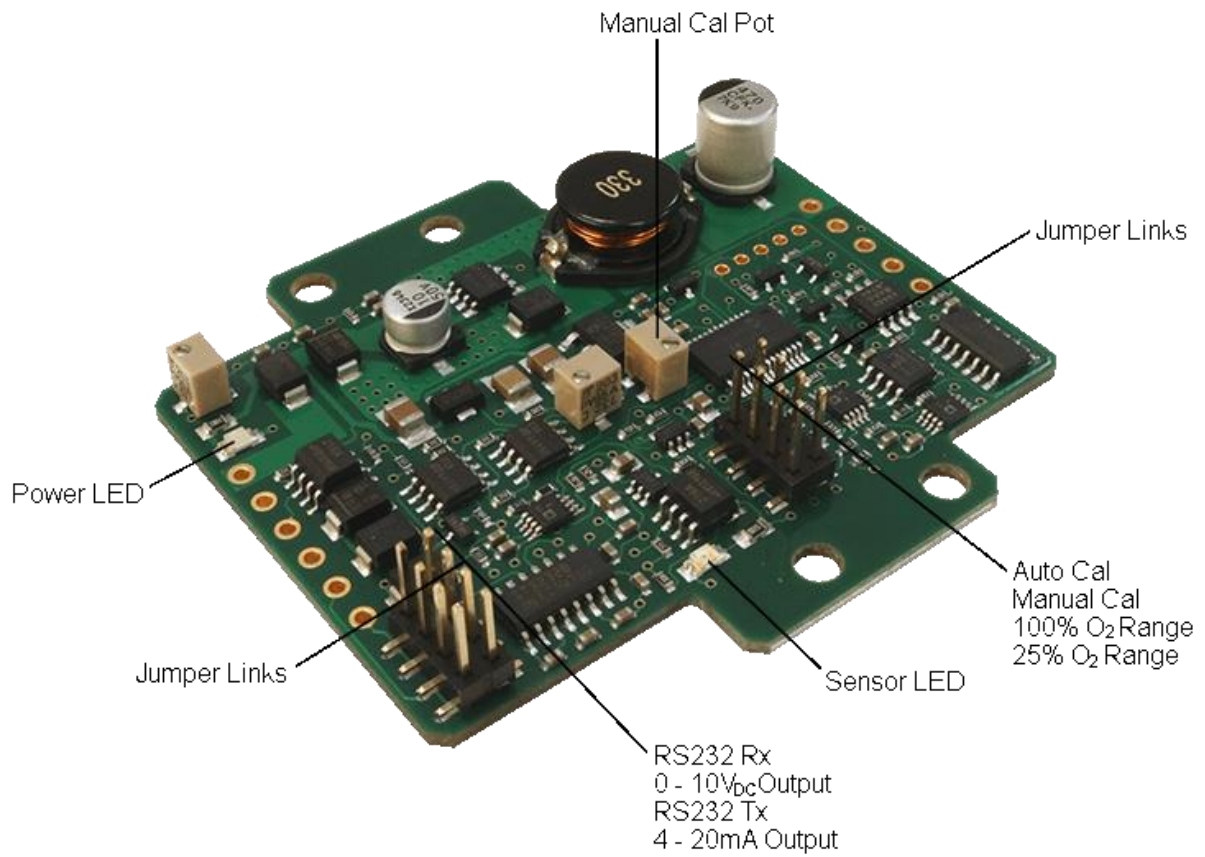

Figure 5 PCB Layout
- Assignment of output pins 5 and 6 selectable by altering the position of the jumper links on the PCB; refer to Figure 5 for details.